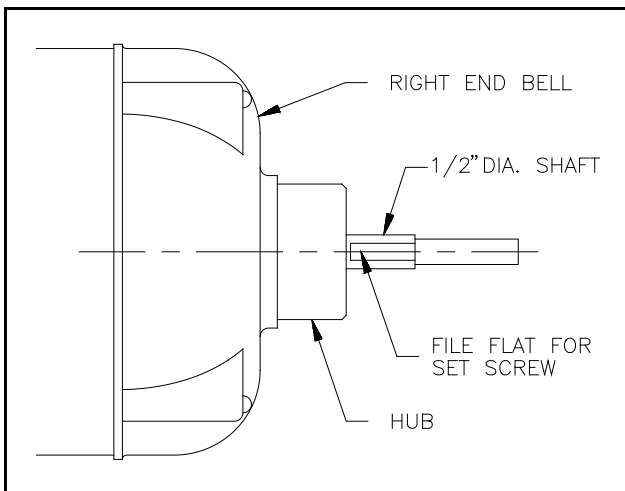

Figure 5. Hub and shaft
- 3.4 Hold the left end of the shaft wrapped in a shop towel with the pliers. File a flat on the shaft where the motor pulley set screw contacts the shaft. The flat should be at least 1/4" wide. See Figure 5.